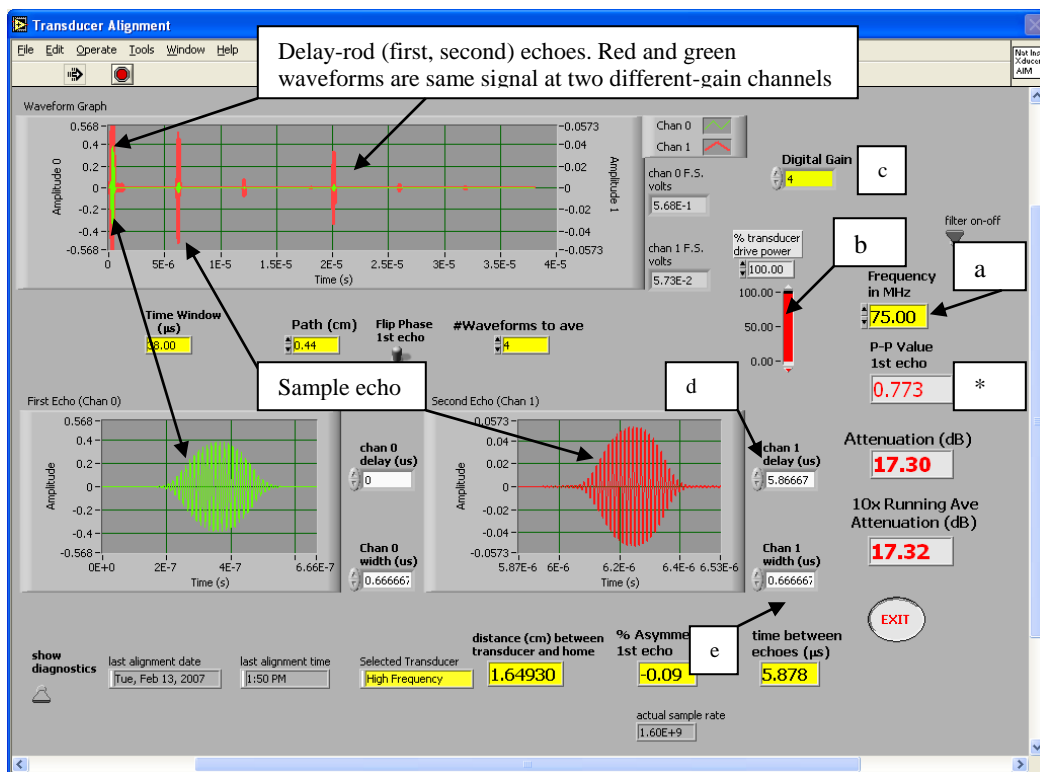

Fig. 4. Fine alignment settings for HF transducer.
- I. Turn the two fine-alignment screws (see stage photo in the Zeta-APS manual) in order to minimize the Attenuation (dB) value as shown on figure 4.